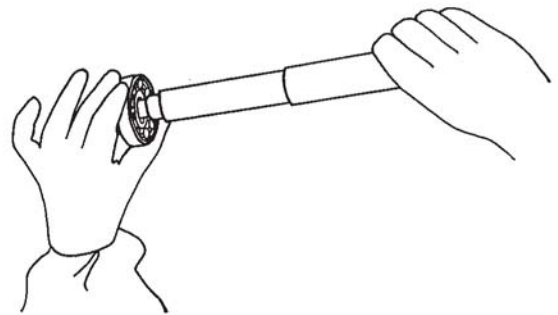

Fig.15
- 30) The shaft (pos. 6) has to be replaced only in the cases listed under point 18.
Contrary to the monobloc pumps in this case the transmission device is mounted beginning with the introduction of the ball bearings (pos. 46 48) on the shaft, see fig. 15.